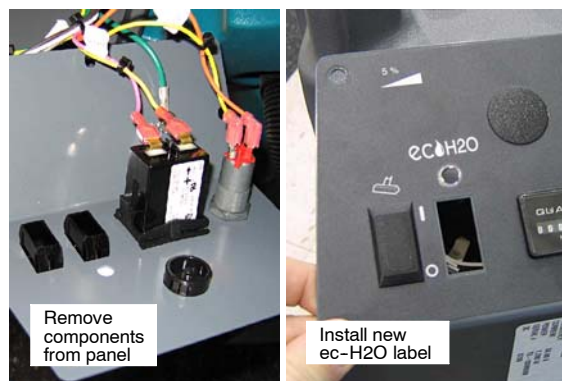

Fig. 10
8. Remove the components and the label from the lower control panel. Install new label [p/n 1050006], supplied with kit, and replace components (Figure 10). Leave the *ec-H2O* on/off switch location open.